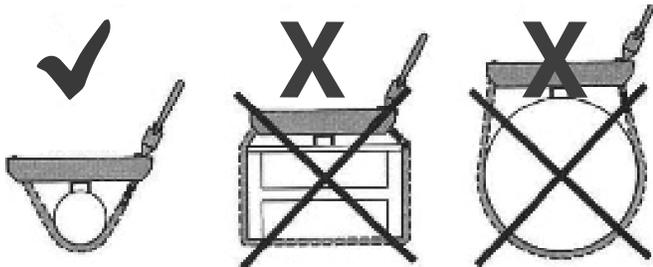

Figure 27: Support Structure Shapes
2. Inspect the structural support for any rusting or damage before mounting the chain mount. Use a structural support between 2.5 in and 10 in (63.5 mm - 254 mm) in diameter or width and capable of withstanding the maximum rated load of the puller. Do not attach the chain vice to supports outside this range. Failure to follow these directions could lead to the chain mount breaking free and potentially causing severe injury or death. (Fig.27)